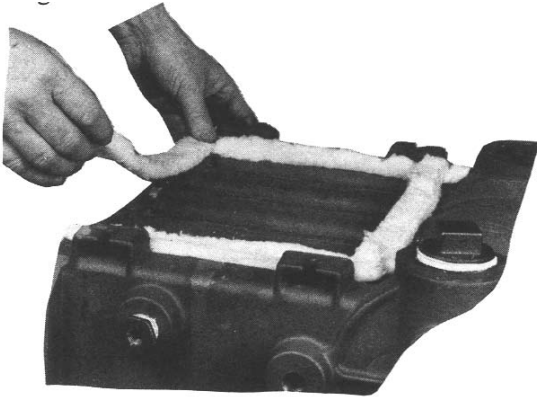

Figure 7: Canopy Gasket Installation
1. Install ½" thick x 1" wide ceramic fiber gasket. See Figure 7.